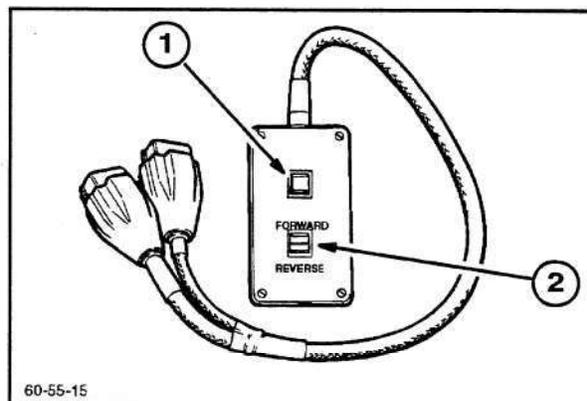
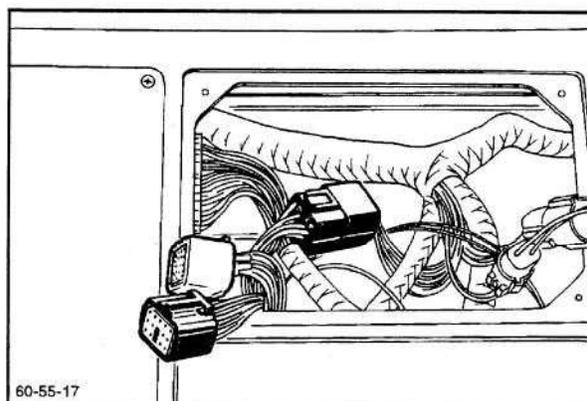
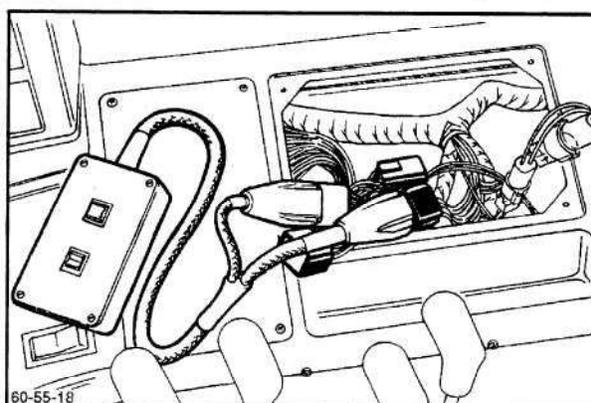

Figure 4-2-2
Figure 4-2-3
Figure 4-2-5
4. Locate and disconnect the cab main harness access connector, Figure 4-2-3, enabling the connection of the limp home harness connector, Figure 4-2-2, marked with 'HARNESS', into the cab main harness of the tractor, Figure 4-2-5.
5. Connect the other connector of the Limp Home harness, Figure 4-2-2, marked 'DIAGNOSTIC', to the 'WHITE' diagnostic plug, Figure 4-2-5.
7. Select forward or reverse by operating forward/reverse switch, (2) Figure 4-2-2, for 2 seconds on the Limp home harness control box. Return the switch to the center position.
8. Operate the momentary switch, (1) Figure 4-2-2, of the Limp Home Harness to move the vehicle. If necessary, depress the foot throttle to increase engine speed.